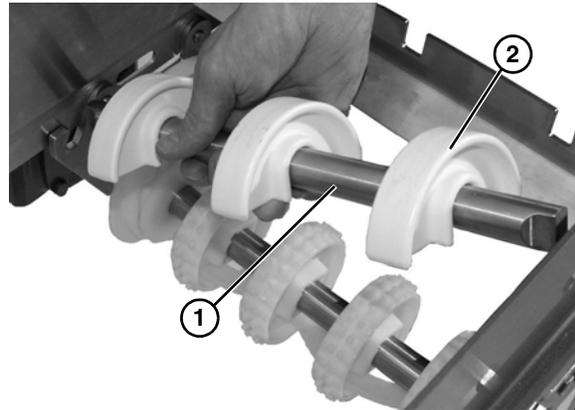

Figure 37
4. Remove belt return (**Figure 37, item 1**).
5. Remove and replace belt return shoes if worn (**Figure 37, item 2**).